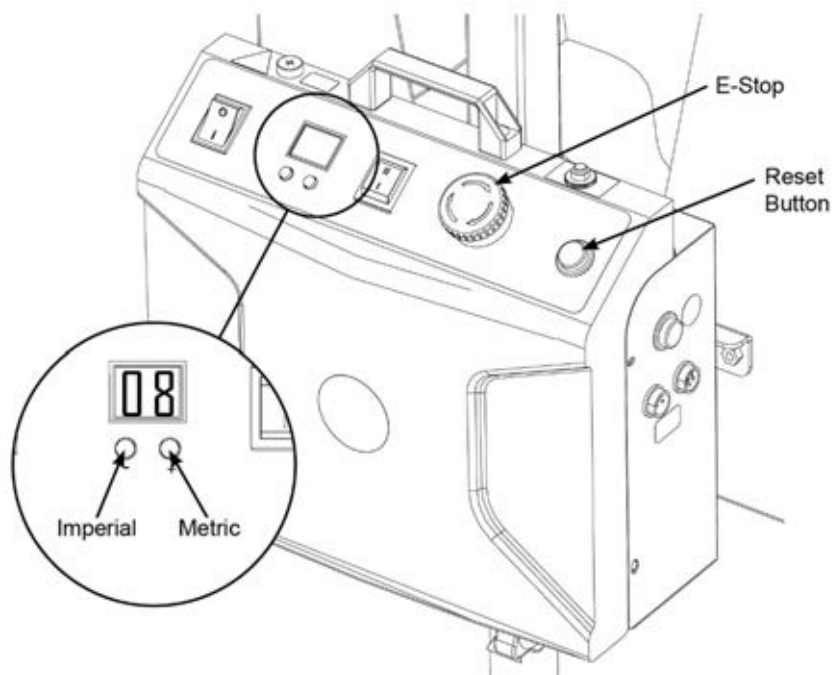

Figure 19 Units Setting
4. The Paper Feed Wheels DO NOT engage when pressing the Foot Switch but DO engage when pushing the Feed-In Button – The used Foot Switch Connection is not properly connected.	Move the Foot Switch Plug to the spare Control Box Foot Switch Connection (refer to Figure 19). In case the Dispenser works properly after switching to another Foot Switch Connection, contact Technical Support .
5. The Paper Feed Wheels DO NOT engage when pressing the Foot Switch and DO NOT engage when pushing the Feed-In Button – The Circuit Breaker is engaged (push button in high position) due to Feed Wheels overload.	Turn the I/O Main Switch to the [O] OFF position. Wait for 3 to 5 minutes. Turn the I/O Main Switch to the [I] ON position. Press the push button from the Circuit Breaker (refer to Figure 19). In case the push button from the Circuit Breaker moves back in high position, contact Technical Support .
6. The Paper Feed Wheels DO NOT engage when pressing the Foot Switch and DO NOT engage when pushing the Feed-In Button – The Emergency Stop Button is pressed.	Release the Emergency Stop by turning the Red Button clockwise. Reset the Dispenser (refer to Figure 19).
7. The Paper Feed Wheels DO NOT engage when pressing the Foot Switch and DO NOT engage when pushing the Feed-In Button – The Dispenser Controls Connection Plug is not properly tightened.	Turn the I/O Main Switch to the [O] OFF position. Make sure that the Dispenser Controls Connection Plug is properly connected to the Control Box Connection by turning the round nut clockwise till correctly fixated (refer to Figure 19). Turn the I/O Main Switch to the [I] ON position and Reset the Dispenser Controls (refer to Figure 19).
9. The Paper Feed Wheels DO NOT engage when pressing the Foot Switch but DO engage when pushing the Feed-In Button – The Foot Switch used is defective.	Turn the I/O Main Switch to the [O] OFF position. Disconnect the Foot Switch Plug from the Control Box Connection and install a new Foot Switch (refer to Figure 19). In case no new Foot Switch is available, contact your authorized distributor, Nuevopak , or IPG Company representative.